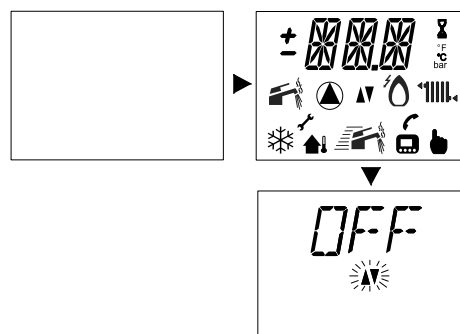

Figure 5.2
- 2 Power the boiler electrically by setting the power switch foreseen in the installation. The LCD display shows the sequence (figure 5.2).